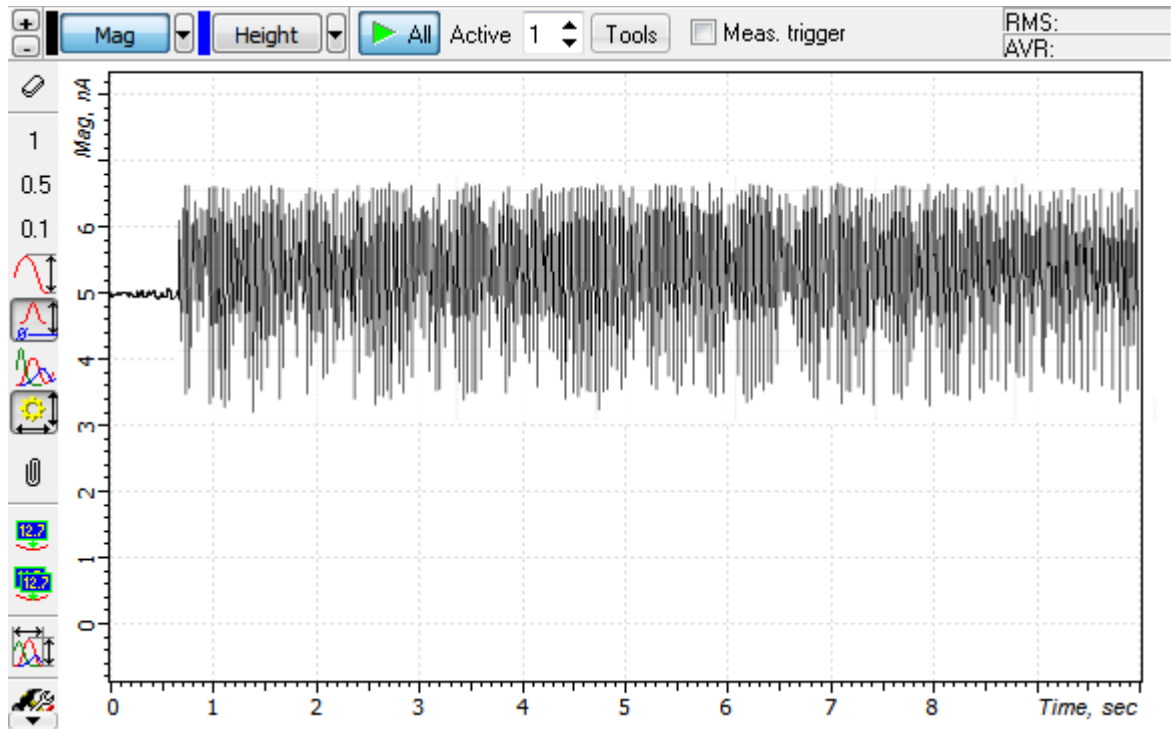

Fig. 8-12. Noise generation in the feedback loop
The greater is the level of the feedback gain (**Gain** parameter), the greater is data processing speed in the feedback loop. Nevertheless, at some high level of the feedback gain (let us call it threshold value), the mode of operation of the feedback loop becomes unstable and noise generation occurs. Under this condition, the **Mag** signal is supplied with a significant alternating component (see Fig. 8-12).
3. Determine the value of the **Gain** parameter at which noise generation occurs. The beginning of the generation is identified by appearance of a noticeable alternating component in the **Mag** signal (see Fig. 8-12).